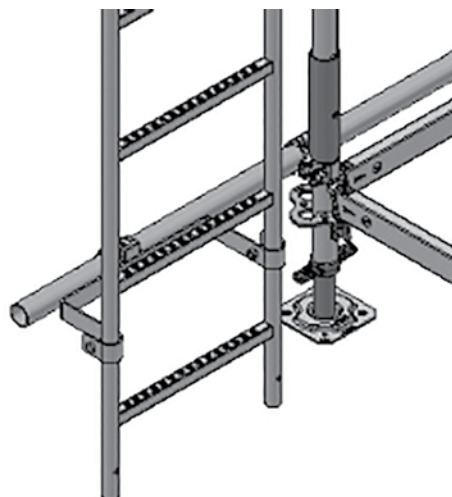

Fig. A3.05
5. Screw the half-coupler of the Ladder Connector onto scaffold tube. (Fig. A3.05)